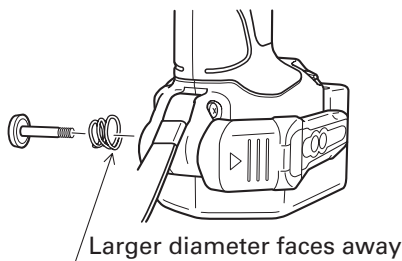

Fig. 8
**NOTE:** Pay attention to the spring orientation. Install the spring with larger diameter away from you. (Fig. 8)